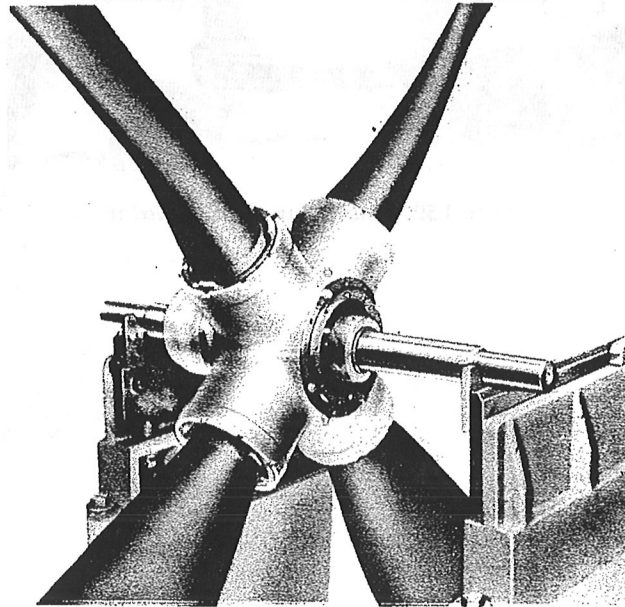
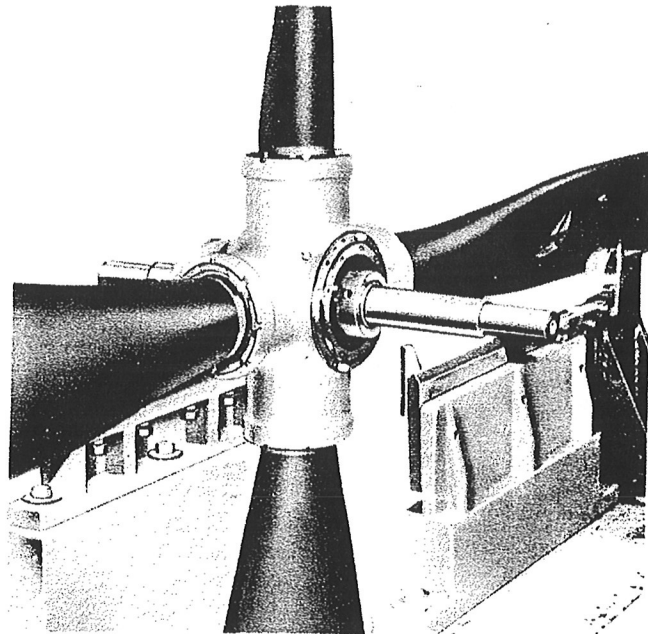

Figure 161—Aligning Propeller with Balancing Ways
Figure 162—Balancing Propeller Horizontally
(10) Rotate the arbor until it is squarely against the stops at the opposite end of the ways. (See figure 161.)
(11) Rotate the arbor back until it reaches the center of the knife edges.
(12) Rotate the propeller then stop it with two blades in the horizontal position. Note the movement of the propeller, as the lightest blade will seek the highest point. (See figure 162.)